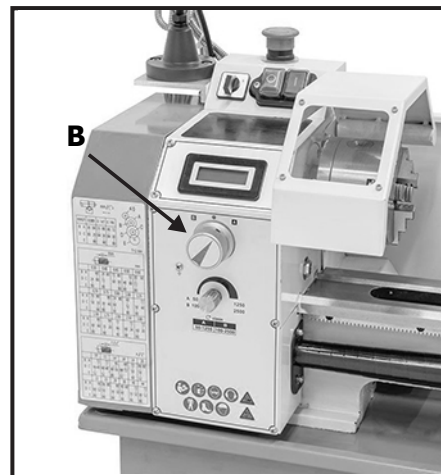

Fig.15
1. The lathe is driven by gears, so we need rotate the handle (B, Fig.15) to change the speed.